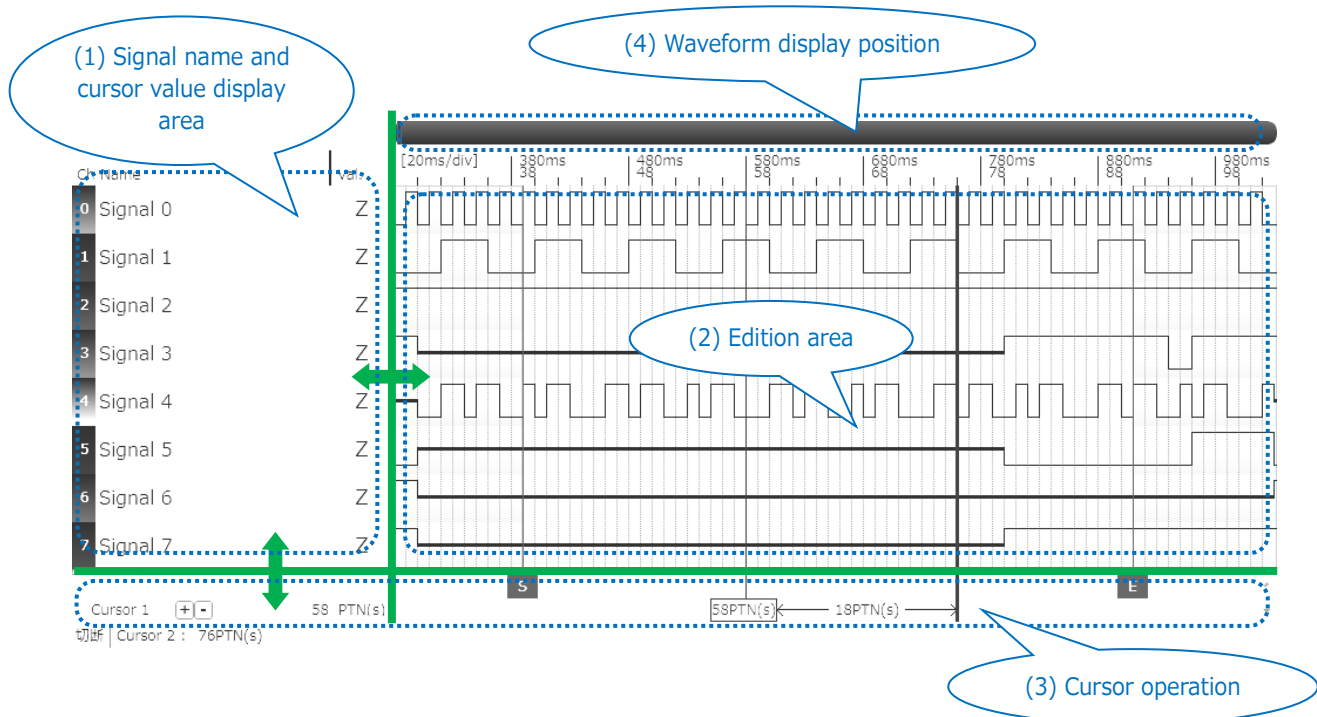
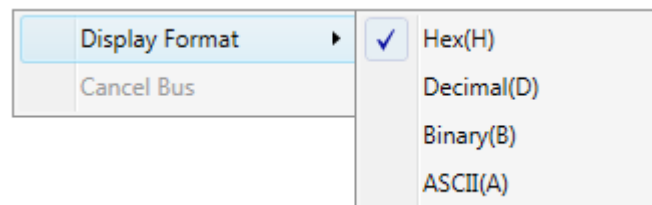

Figure 30
Figure 37
(1) Channel No.	<p>Displays channel numbers.</p> <p>By dragging and dropping the channel number indication, you can switch the order of signals.</p> <p>Clicking a signal number puts it into a selected state.</p>
(2) Signal name	<p>Displays signal names.</p> <p>Clicking a character string puts the signal name into an editable state, allowing you to change the signal name.</p> <p>When a signal is a bus or a bus element, right-clicking it displays the context menu. (For context menu, refer to Figure 37.)</p> <p>Double-clicking a signal name for single signal turns it to a bus.</p>
(3) Cursor value	<p>Displays the values of signals at the position selected by the cursor.</p> <p>During step-by-step output, this section displays the signal values at the position where the step-by-step output is performed. In this case, the numeric values are displayed in green.</p> <p>When a bus is displayed, its numeric value is appended with "h" at its end if the value is a hexadecimal number and appended with "b" if the value is a binary number. For a decimal value, the numeric value only is displayed.</p> <p>The display unit of bus can be changed from the context menu for signal name.</p> <p>When the number of digits is too large to fit in the display area, "#" is displayed.</p>
→ To extend the cursor value display area (3), extend "(1) Signal name and cursor value display area" in Figure 30.